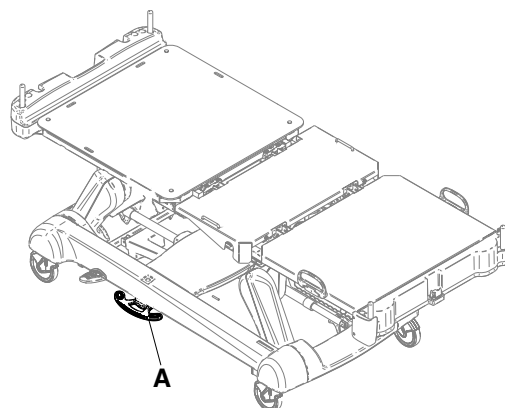

Figure 6: Flipped manual brake pedal
1. Flip down the brake pedal (A) (Figure 6 on page 24).